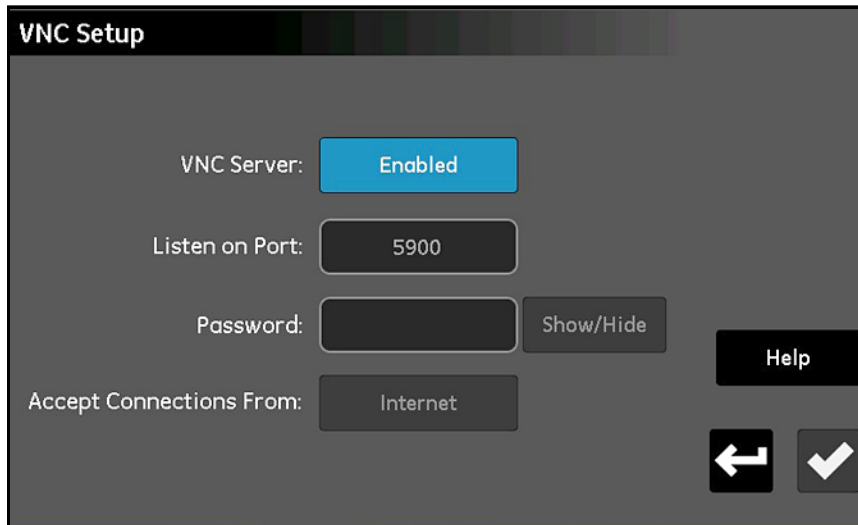

Figure 72: VNC Setup Screen
1. From the *Configuration Menu* screen (see *Figure 52 on page 55*), tap the **VNC** button to open a *VNC Setup* screen similar to *Figure 72* below.